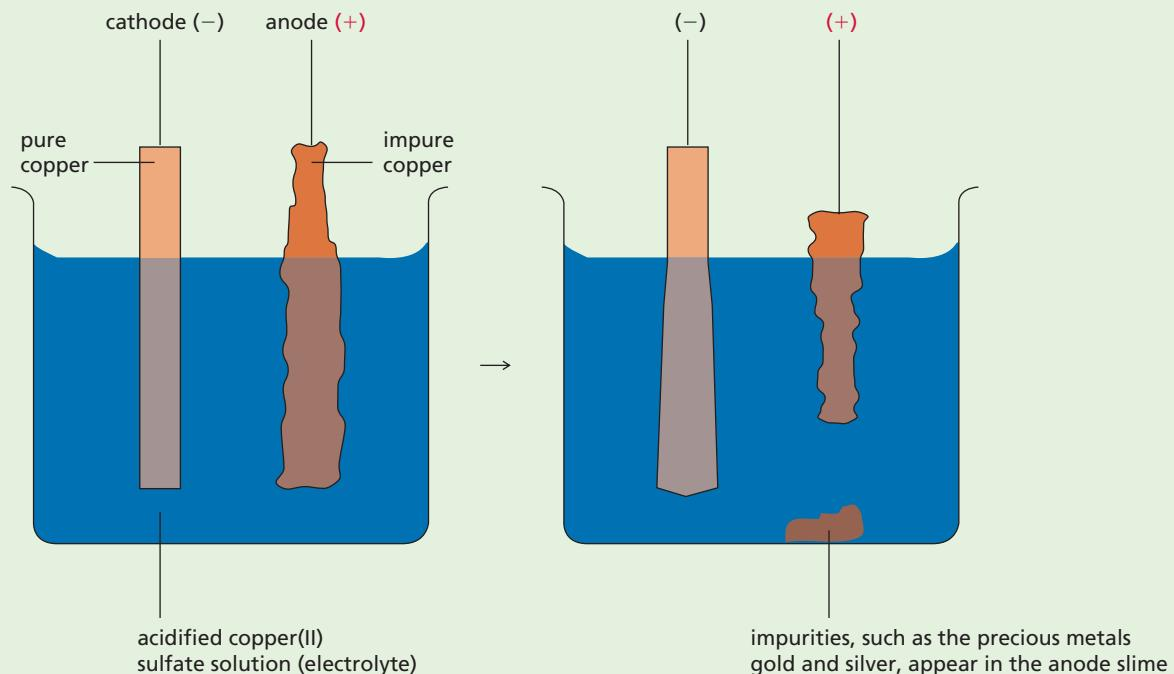

Figure 5.17 Copper purification process.
The impure copper is used as the anode and is typically 1 m square, 35–50 mm thick and 330 kg in weight. The cathode is a 1 mm thick sheet and weighs about 5 kg; it is made from very pure copper. Because copper is itself involved in the electrolytic process, the copper cathode is known as an 'active' electrode. The electrolyte is a solution of copper(II) sulfate (0.3 mol dm^{-3}) acidified with a 2 mol dm^{-3} solution of sulfuric acid to help the solution conduct electricity (Figure 5.17).